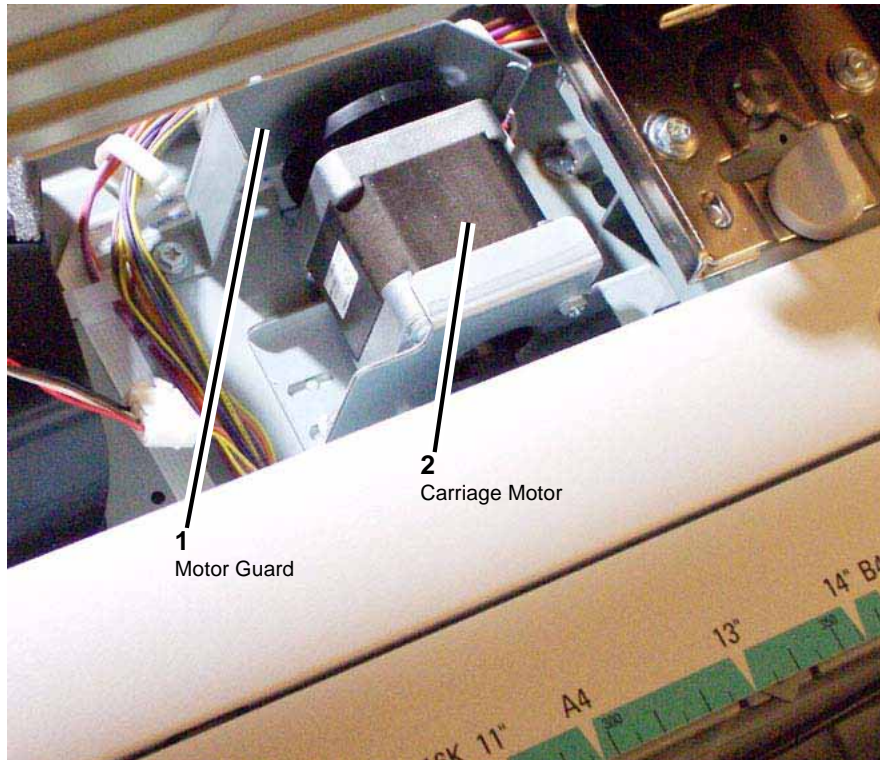

Figure 2 Carriage Motor Guard
6. Remove the Motor Guard. Figure 2
- a. Remove (2) securing screws.